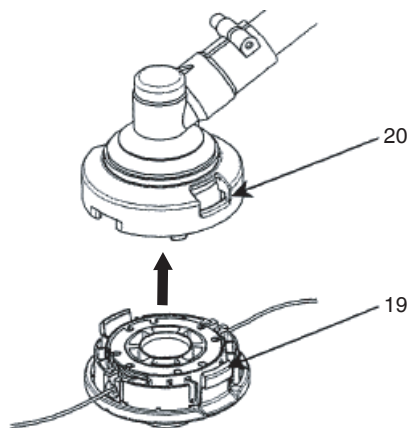

Fig. 25
- (6) Place the cover over the case so that the cap locking tabs (19) on the case meet the long holes (20) on the cover. Then push the case securely until it clicks into place. (Fig. 25)